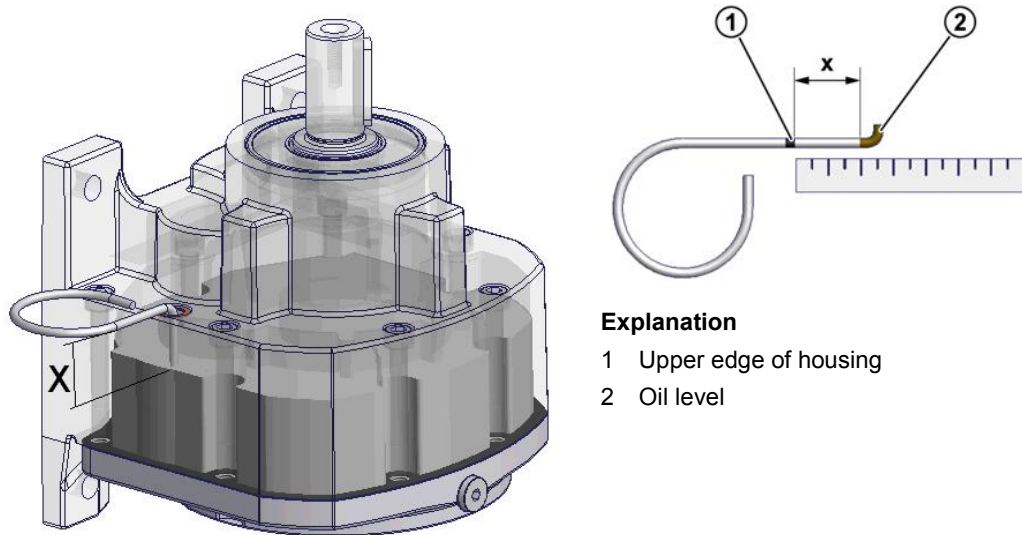

Figure 32: Measuring the oil level
2. Determine the measurement X between the upper edge of the gear unit housing and the oil level. If necessary, modify the dipstick (see Figure 32 below).